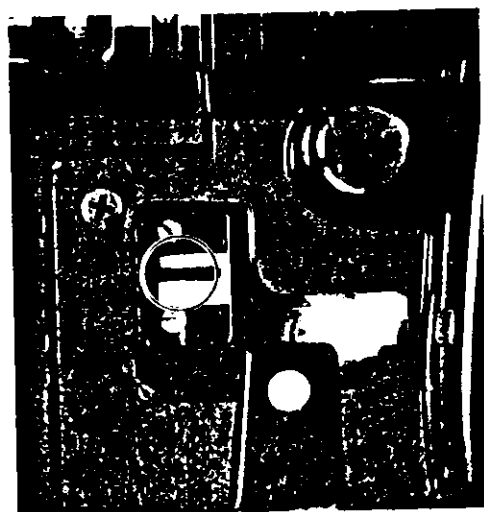

Fig. 13
- 1) Adjust by changing the width of the release lever of Fig. 13.